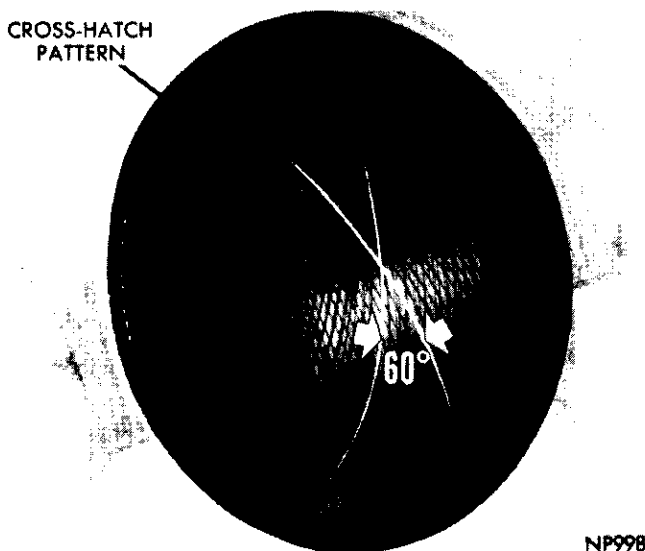

Fig. 30—Cross Hatch Pattern
(2) Deglazing of the cylinder walls may be done using a cylinder surfacing hone, Tool C-3501, equipped with 280 grit stones (3501-3810) if the cylinder bore is straight and round. 20 to 60 strokes depending on the bore condition will be sufficient to provide a satisfactory surface. Inspect cylinder walls after each 20 strokes. Use honing oil C-3501-3880 or a light honing oil available from major oil distributors. **Do not use engine or transmission oil, mineral oil or kerosene.**
(3) Honing should be done by moving the hone up and down fast enough to get a cross-hatch pattern. When hone marks intersect at 60°, cross hatch angle is most satisfactory for proper seating of rings (see Fig. 30).
(4) After honing, it is necessary that the block be cleaned again to remove all traces of abrasives. Wash cylinder block and crankshaft thoroughly.